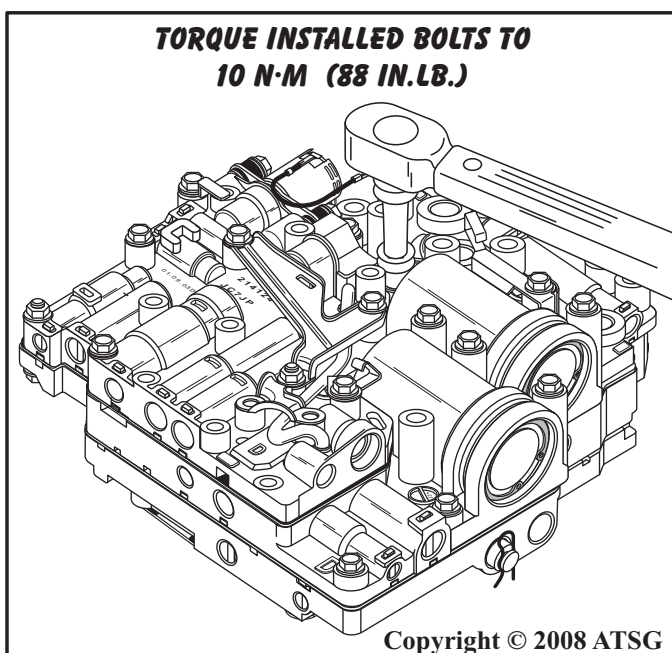

Figure 110
55. Beginning in the center and working your way outward, torque all installed valve body bolts to 10 N·m (88 in.lb.), as shown in Figure 110.